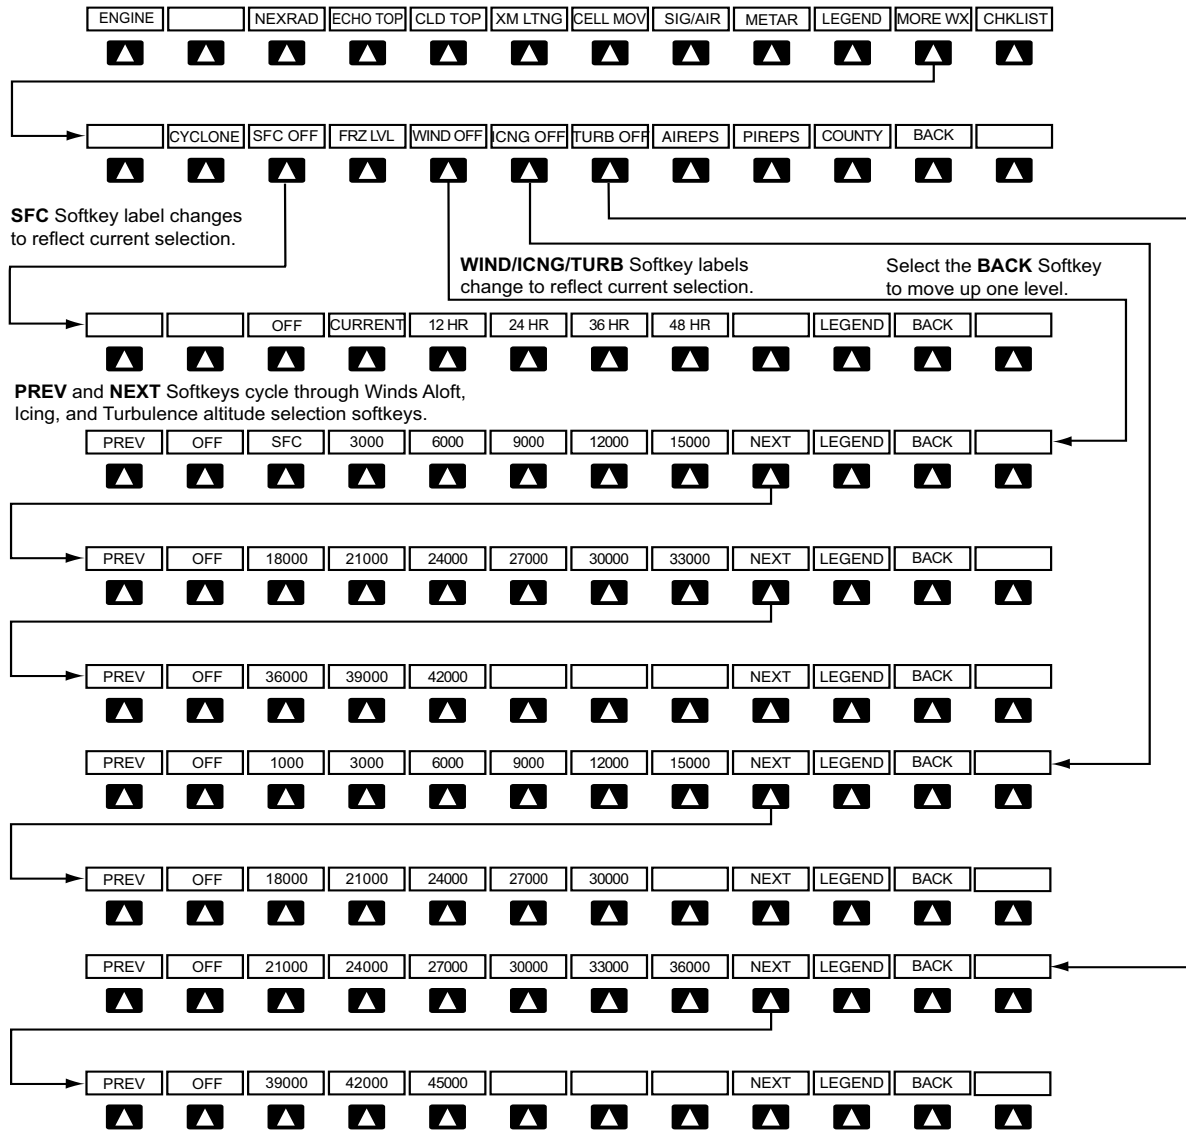

Figure 6-3 Weather Data Link Weather Product Softkeys
Softkeys control the display of weather information on most MFD pages and the PFD Inset Map (Figure 6-3 shows the weather product softkeys for the Weather Data Link (XM) Page). When a weather product is selected for display, the corresponding softkey label changes to gray to indicate the product is enabled.